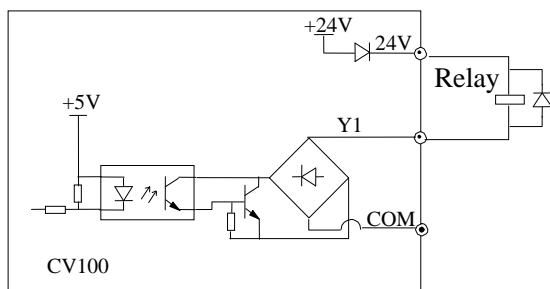
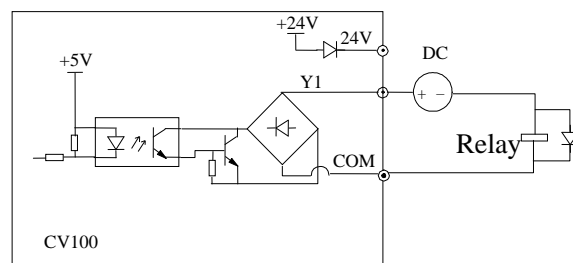

Fig 4-11 Wiring method 1 of multi-function output terminal
Fig 4-12 Wiring method 2 of multi-function output terminal
1. Multi-function output terminal Y1 can use the internal 24 power supply, the wiring is as shown in Fig.4-11
2. Multi-function output terminal Y1 can use the external 24 power supply too, the wiring is as shown in Fig.4-12.
5. The resistors R in Fig. 4-11 and Fig.4-12 should be removed for 24V input relays, and the resistance of R should be selected according the parameters of relay for non-24V relay.